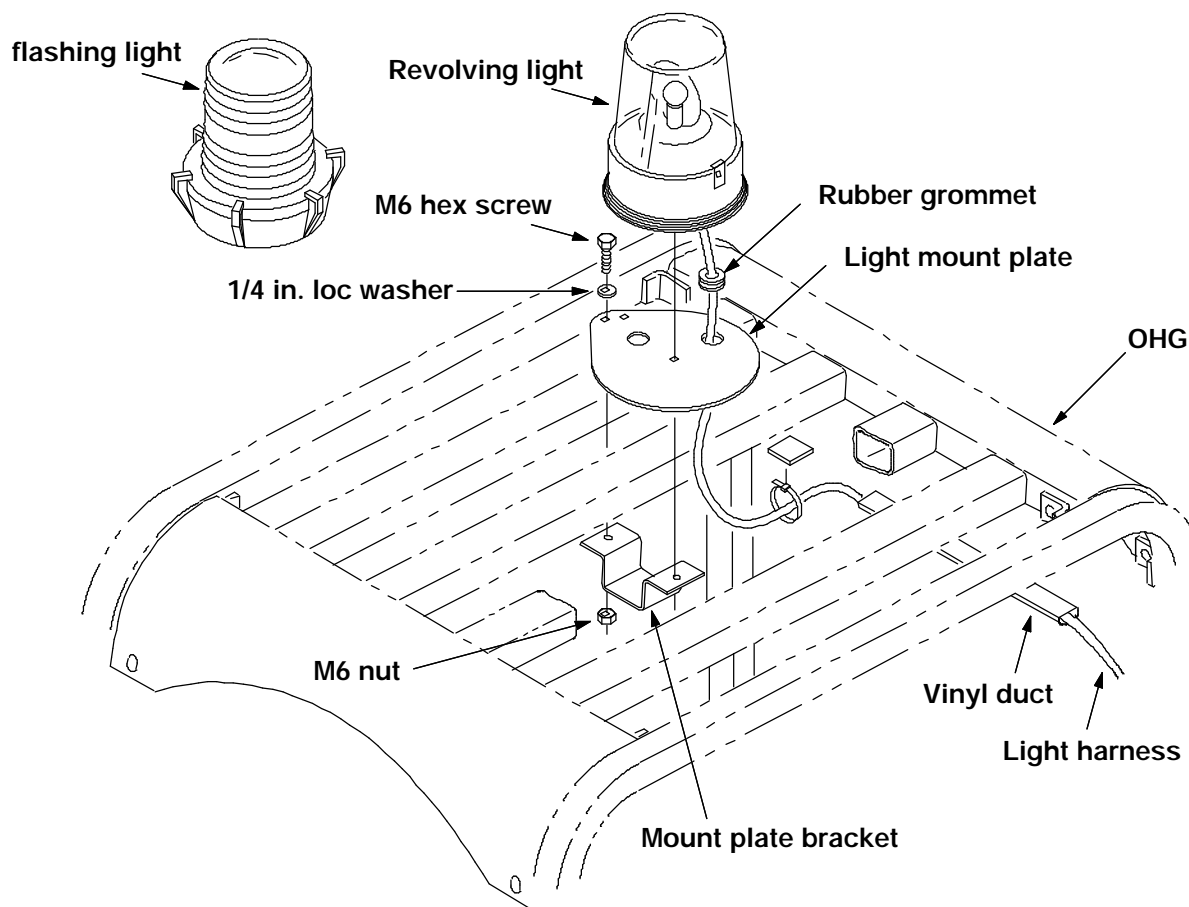

FIG. 1 - OHG Mounted Rev/flashing Light Assembly
(Refer to FIG. 1)
2. Locate the rev/flashing light harness plug (wire numbers 62/YEL and 13KK/BLK) near the detergent pump under the operators seat. (Refer to FIG. 1)
3. Plug the rev/flashing light harness (60288 lintel mounted and 71543 OHG mounted) into the machine harness. (Refer to FIG. 1)
4. Route the harness up the back of the lintel so it comes out in the area of the mounting holes for the rear, inside leg of the OHG. (Refer to FIG. 1)
NOTE: Use a number of cable ties (55248) to secure the harness away from any moving or hot parts. (Refer to FIG. 1)
(Refer to FIG. 1 and 3)
1. Install the rubber grommet (10632-2) in larger hole in the light mount plate (57220). (Refer to FIG. 1)
2. Install the snap plug terminal (55272) on the positive wire on the light (82199 rev or 82198 flashing). (Refer to FIG. 1 and 3)
3. Install the ring terminal (29192) on the ground wire of the flashing light (82198). (Refer to FIG. 1 and 3)
4. Run the wires through the grommet. (Refer to FIG. 1 and 3)
5. Connect the wires from the light to the light harness (60288). (Refer to FIG. 1 and 3)
6. Remove the nut from the threaded stud on the bottom of the light. (Refer to FIG. 1)
7. Place the light (82199 rev or 82198 flashing) and mount plate on top of the OHG--on the third bar from the inside. (Refer to FIG. 1)
8. Position the threaded stud of the light through the small hole in the center of the mount plate. (Refer to FIG. 1)
9. Place the mount plate bracket (59447) under the light/mount plate and over the threaded stud. (Refer to FIG. 1)
10. On the flashing light (82198), place the grounding ring on the threaded stud. (Refer to FIG. 1)
11. Reinstall the nut on the threaded stud. Leave loose for now. (Refer to FIG. 1)
12. Install the M6 hex screw (06942), flat washer (32483), and M6 flange nut (07790) in the small hole on the outside edge of the mount plate. Firmly tighten the hardware. (Refer to FIG. 1)
13. Install the adhesive cable tie mount (55248) on the OHG bar, behind the mount plate. Install a cable tie and retain the light harness. (Refer to FIG. 1)
14. Install the vinyl ducts (86330 and 86332) so they will hold the wire harness to the top and side leg of the OHG. (Refer to FIG. 1)
15. Place the wire harness in the vinyl ducts. (Refer to FIG. 1)